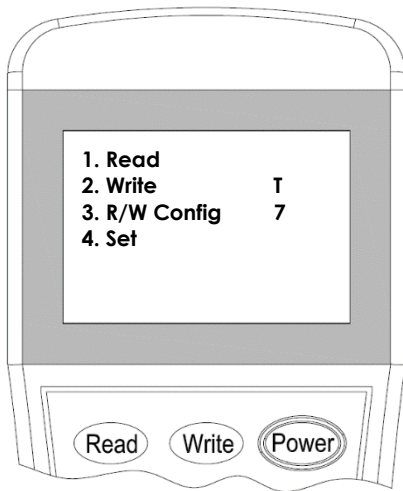

Figure 15
2. Switch-on the programmer, then press button "**4**" to enter to **Setting** mode (Figure 15). The programmer will display the actual configuration after few seconds.